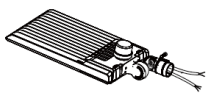
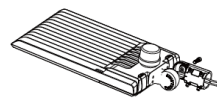

Fig. 1-1
Fig. 1
1. Remove the bracket mounting screws on the fixture and run the wires through the bracket. (Fig. 1, Fig 1-1).